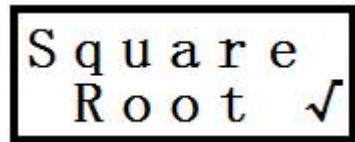

Figure39
12.3 Enter "Left" or "Right" once , and then screen display "Square Root", as shown in Figure 39;